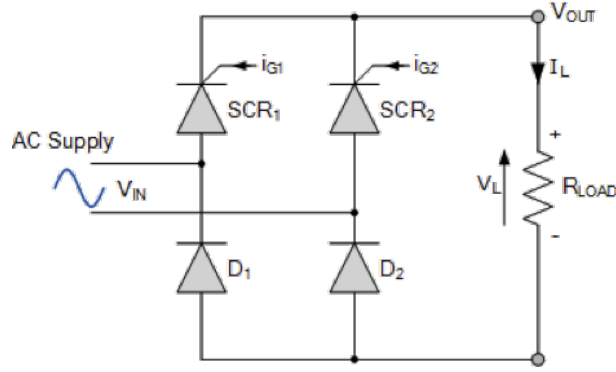

Figure 3: Half-Bridge Rectifier basic circuit
A circuit of half-bridge rectifier is given (Fig. 3). During the positive half cycle of the input waveform, current flows along the path of:  $SCR_1$  and  $D_2$ , and back to the supply. During the negative half cycle of  $V_{IN}$ , conduction is through  $SCR_2$  and  $D_1$  and back to the supply. It is clear then that one thyristor from the top group ( $SCR_1$  or  $SCR_2$ ) and its corresponding diode from the bottom group ( $D_2$  or  $D_1$ ) must conduct together for any load current to flow. Thus the average output voltage,  $V_{average}$  is dependent on the firing angle  $\alpha$  for the two thyristors included in the half-controlled rectifier as the two diodes are uncontrolled and pass current whenever forward biased. So for any gate firing angle,  $\alpha$ , the average output voltage is given by (1).